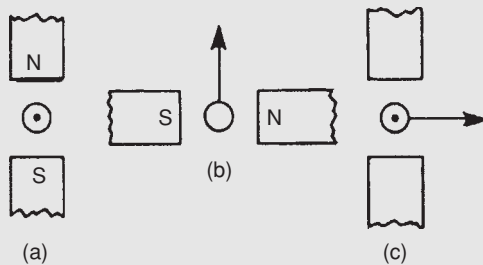
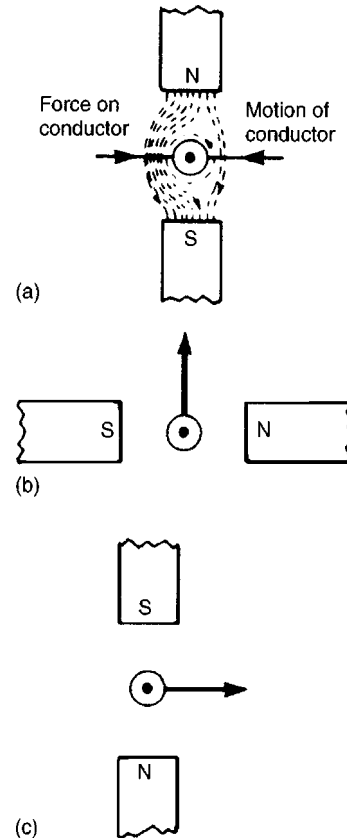

Figure 9.4
Figure 9.5
**Problem 5.** The diagrams shown in Fig. 9.4 represents the generation of e.m.f.'s. Determine (i) the direction in which the conductor has to be moved in Fig. 9.4(a), (ii) the direction of the induced e.m.f. in Fig. 9.4(b), (iii) the polarity of the magnetic system in Fig. 9.4(c)
- (i) Using Lenz's law: The field due to the magnet and the field due to the current-carrying conductor are shown in Fig. 9.5(a) and are seen to reinforce to the left of the conductor. Hence the force on the conductor is to the right. However Lenz's law states that the direction of the induced e.m.f. is always such as to oppose the effect producing it. **Thus the conductor will have to be moved to the left.**
i.e. **towards the viewer or out of the paper**, as shown in Fig. 9.5(b)
- (iii) The polarity of the magnetic system of Fig. 9.4(c) is shown in Fig. 9.5(c) and is obtained using Fleming's right-hand rule.